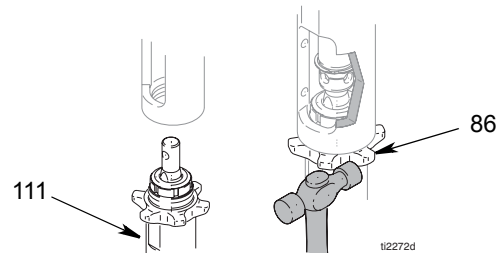

FIG. 10
- 1 (Fig. 10) Screw jam nut (86) to bottom of pump (111) threads. Screw pump (111) completely into manifold. Unscrew pump (111) from manifold until pump outlet aligns with hose. Hand tighten jam nut (86), then tap 1/8 to 1/4 turn with hammer or torque to 75 ft-lb (101 N·m).